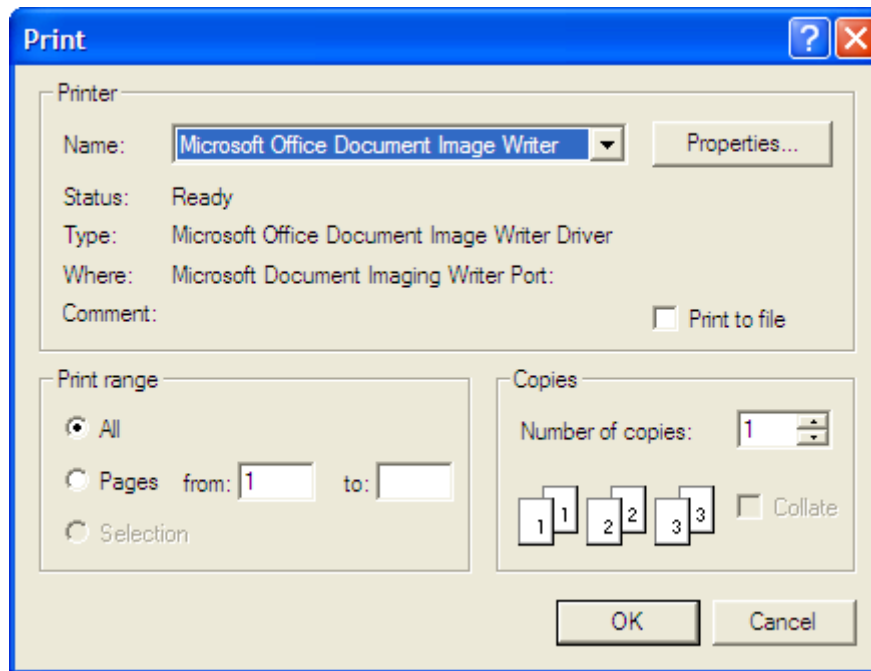

Figure 1-21. Print Dialog
3. When you click on the **Print** button, the window illustrated in Figure 1-21 is displayed.